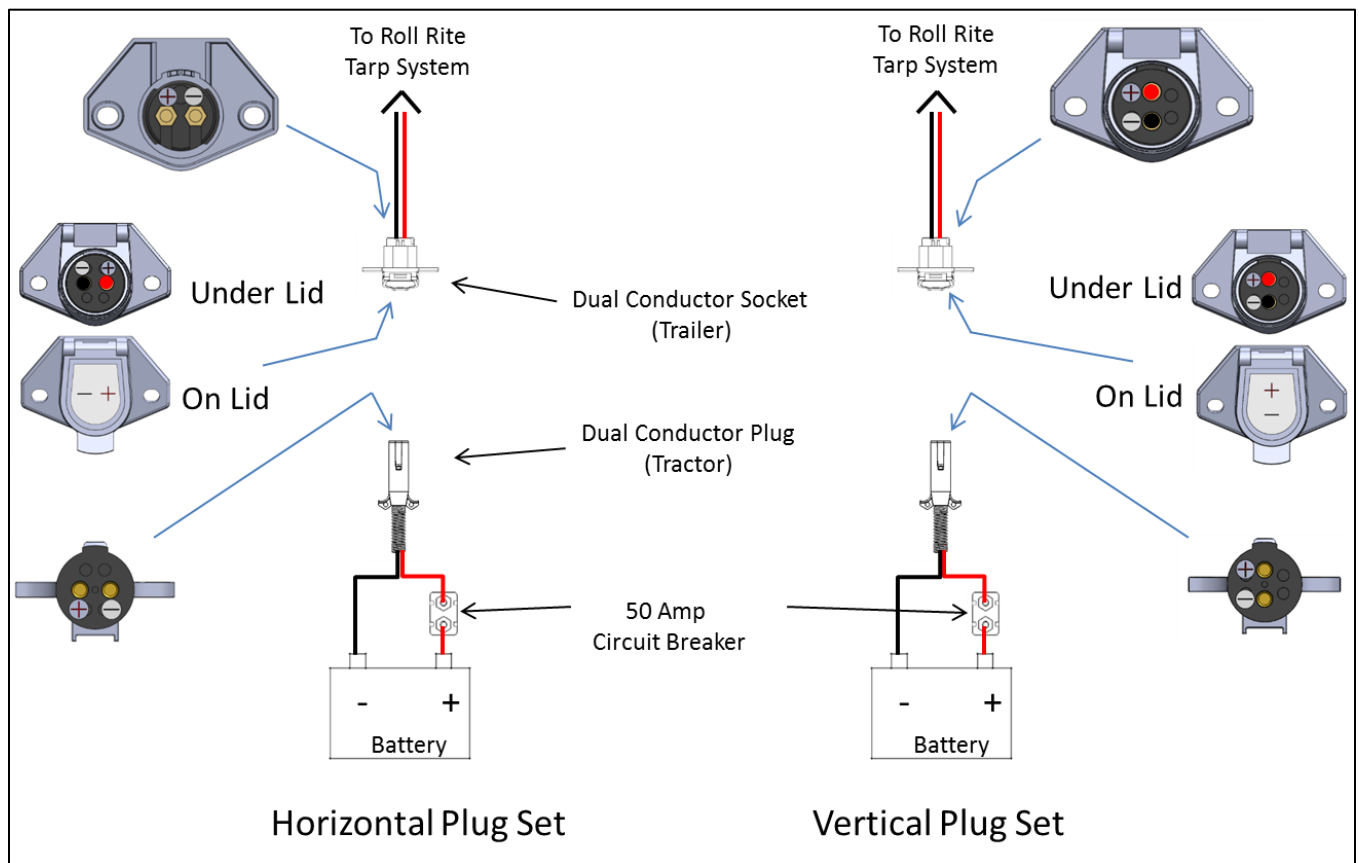
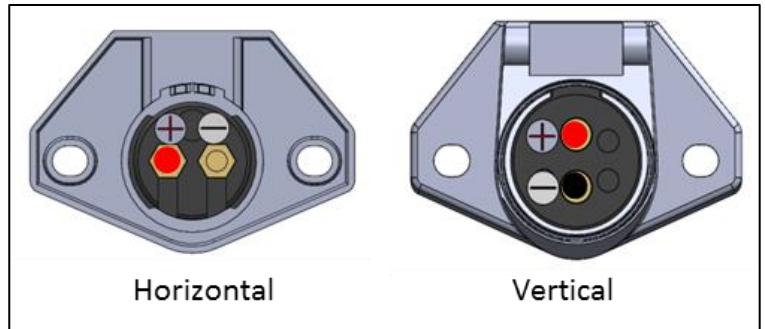
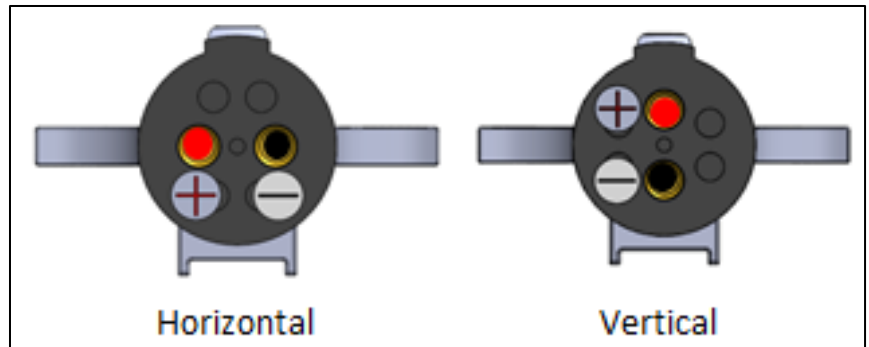

Figure 1: Plug Set Wiring Diagram
Figure 2: Dual Conductor Socket (back side)
Figure 5: Dual Conductor Plug (back side)
- Insert stripped copper wire into appropriate socket terminal taking care to ensure correct polarity as shown in **Figure 1** and **Figure 2**.
- Route Battery Power (+) wiring from the system circuit breaker and Ground (-) wiring from Battery Ground terminal to the Plug Set Socket connector according to **Figure 1**. Take care to properly secure the wiring to prevent motion do to vibration\operation. **DO NOT MAKE CONNECTIONS WITH BATTERY AT THIS TIME**
- Insert stripped copper wire into appropriate socket terminal taking care to ensure correct polarity as shown in **Figure 1** and **Figure 5**.
- Pay particular attention to Plug terminal labelling to ensure Battery (+)/POS and Ground (-)/NEG are correct as shown in **Figure 5**.